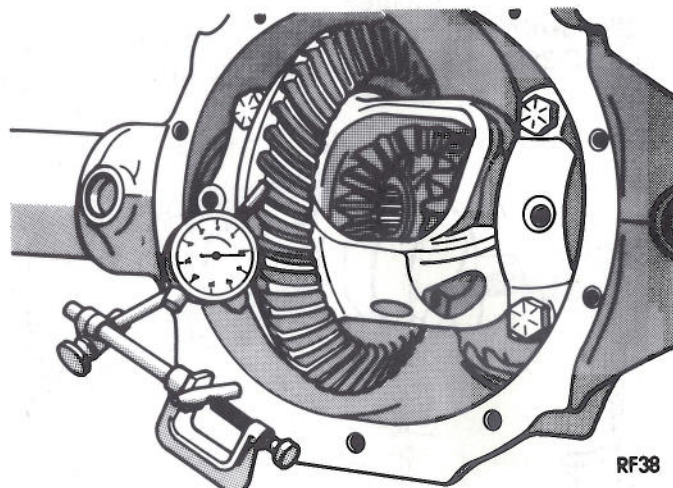

Fig. 30—Dial Indicator Installed to Check Backlash
(2) Install dial indicator Tool C-3339 (Fig. 30)